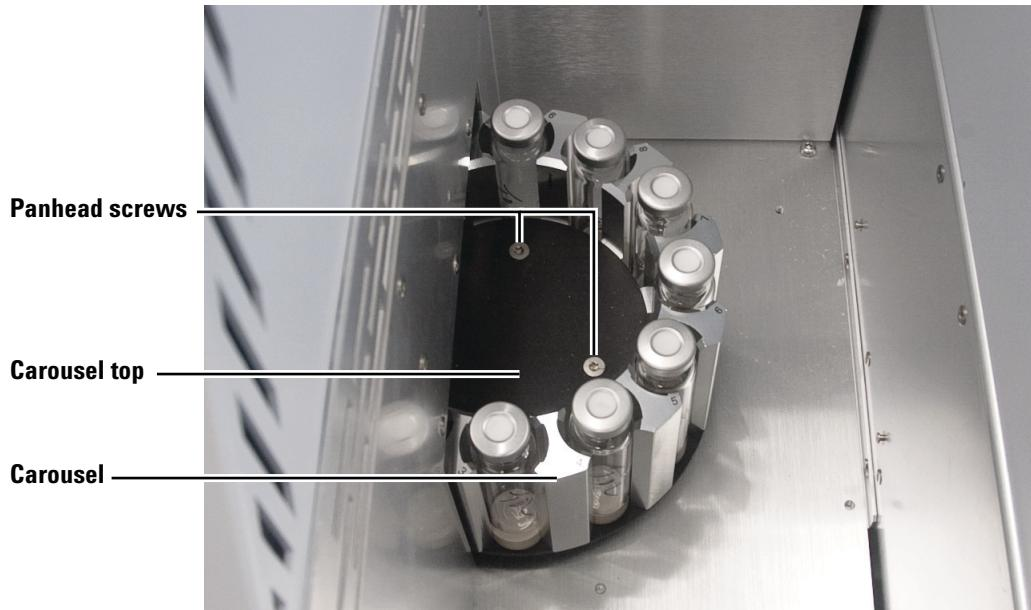

Figure 15 Oven area and carousel
- a** Remove the three T-20 Torx screws on the carousel top, and remove the carousel top (Figure 15).
- b** Remove the three T-20 Torx panhead screws and washers on the carousel base that secure the carousel to the carousel hub (Figure 15).